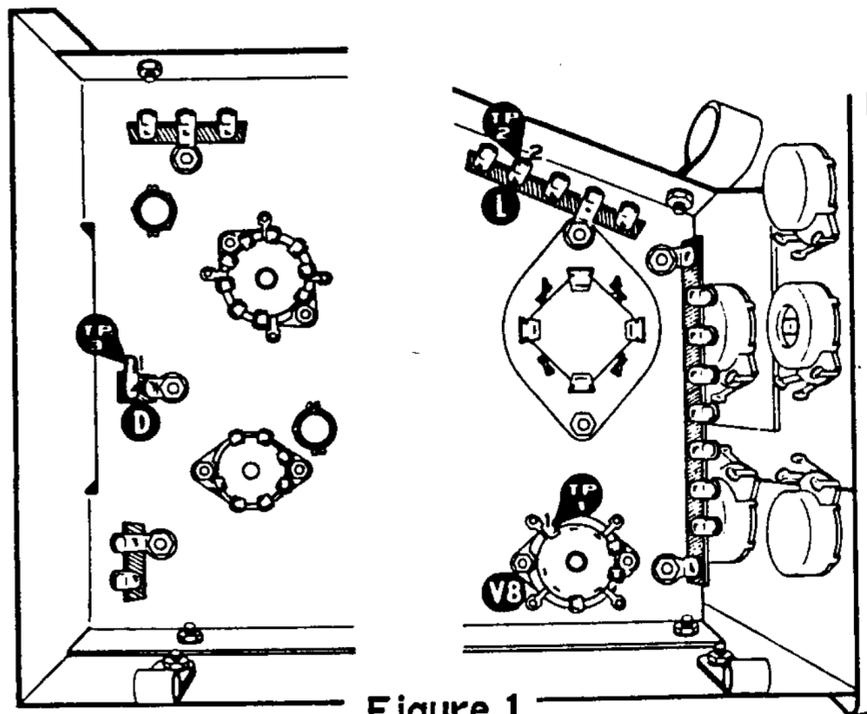

Figure 1
Refer to Figure 1 for the following steps.
- () Referring to Figure 1, connect the voltmeter test leads to read negative (-) voltage from TP-3 (lug 1 of terminal strip D) to chassis.